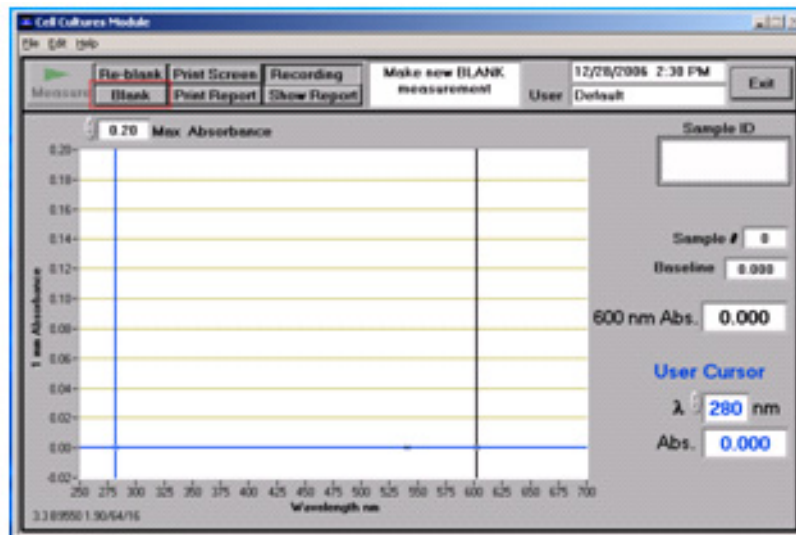

Figure 42 NanoDrop® ND-1000 Spectrophotometer software measurement dialog box.
8. Click **Blank**, then allow the instrument to take a measurement (see Figure 42 on page 100).